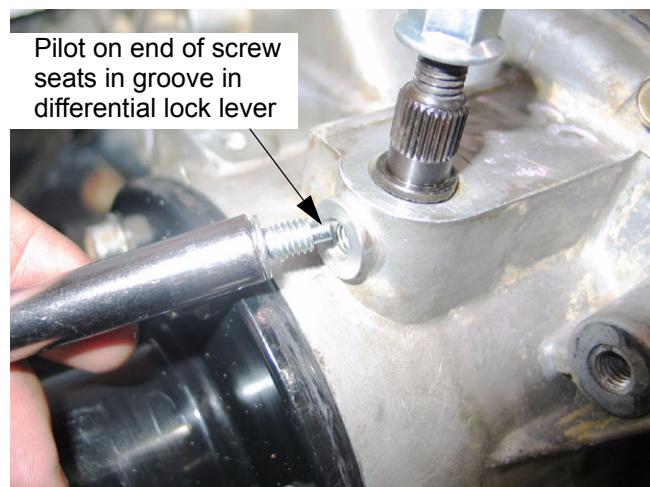

Figure 9.11
9.11. Remove the screw that locates the differential lock lever in the transaxle housing using an 8mm wrench. See Figure 9.11.